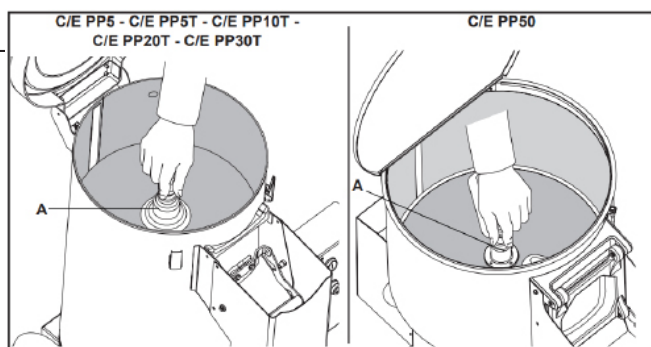

Fig. 7
- Using the appropriate handle (Fig. 7, reference A), remove the scraping disc and, using water, remove the remaining peel from the disc and the inside of the container. Do not use any solvents or cleaning agents!